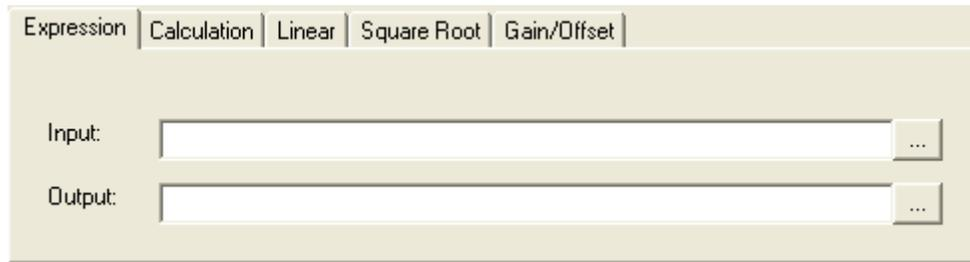

Figure 19 - Insert New Alias Window Scaling Options
By selecting the **Scaling >>** button, the **Insert New Alias** window can be expanded to display **Scaling Options** (Figure 19). The available forms of scaling include: Simple text **Expressions**, **Calculation**, **Linear**, **Square Root**, and **Gain/Offset**.
8. The **Scaling Options** are displayed at the bottom of the **Insert New Alias** window (Figure 19).
4. Click on the **Scaling** button to enable scaling for the alias. The **Scaling Options** are displayed at the bottom of the **Insert New Alias** window (Figure 19) or the **Edit Alias** window.